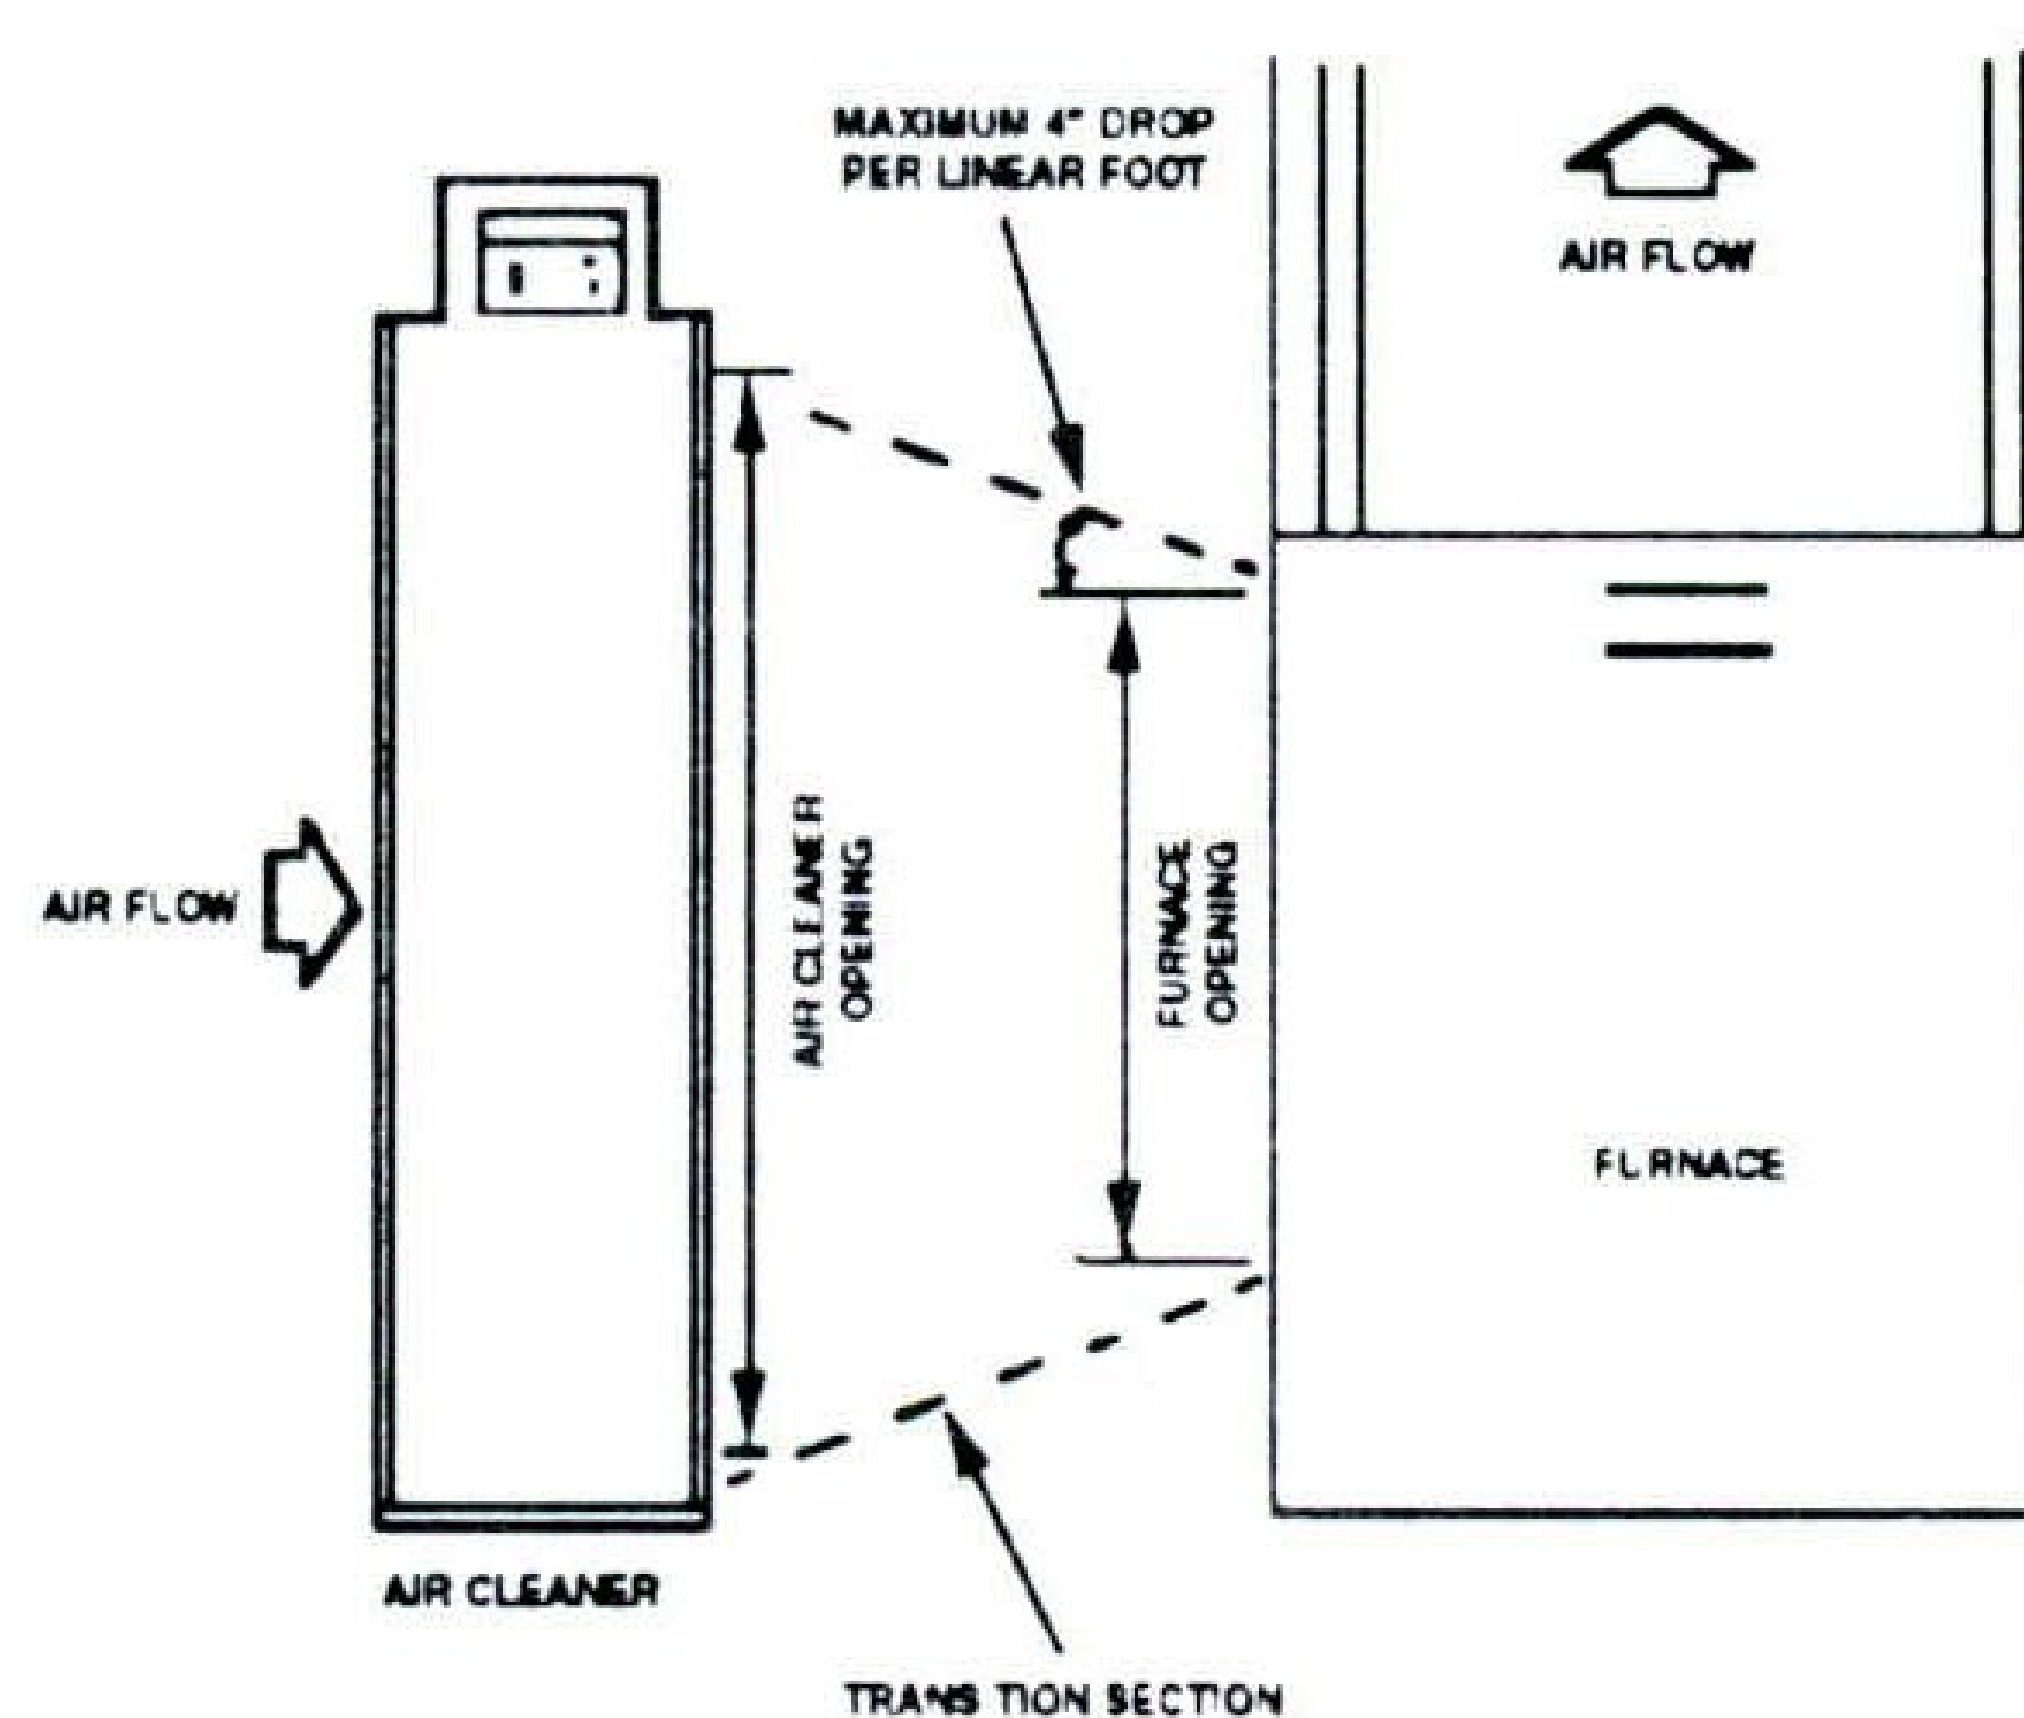
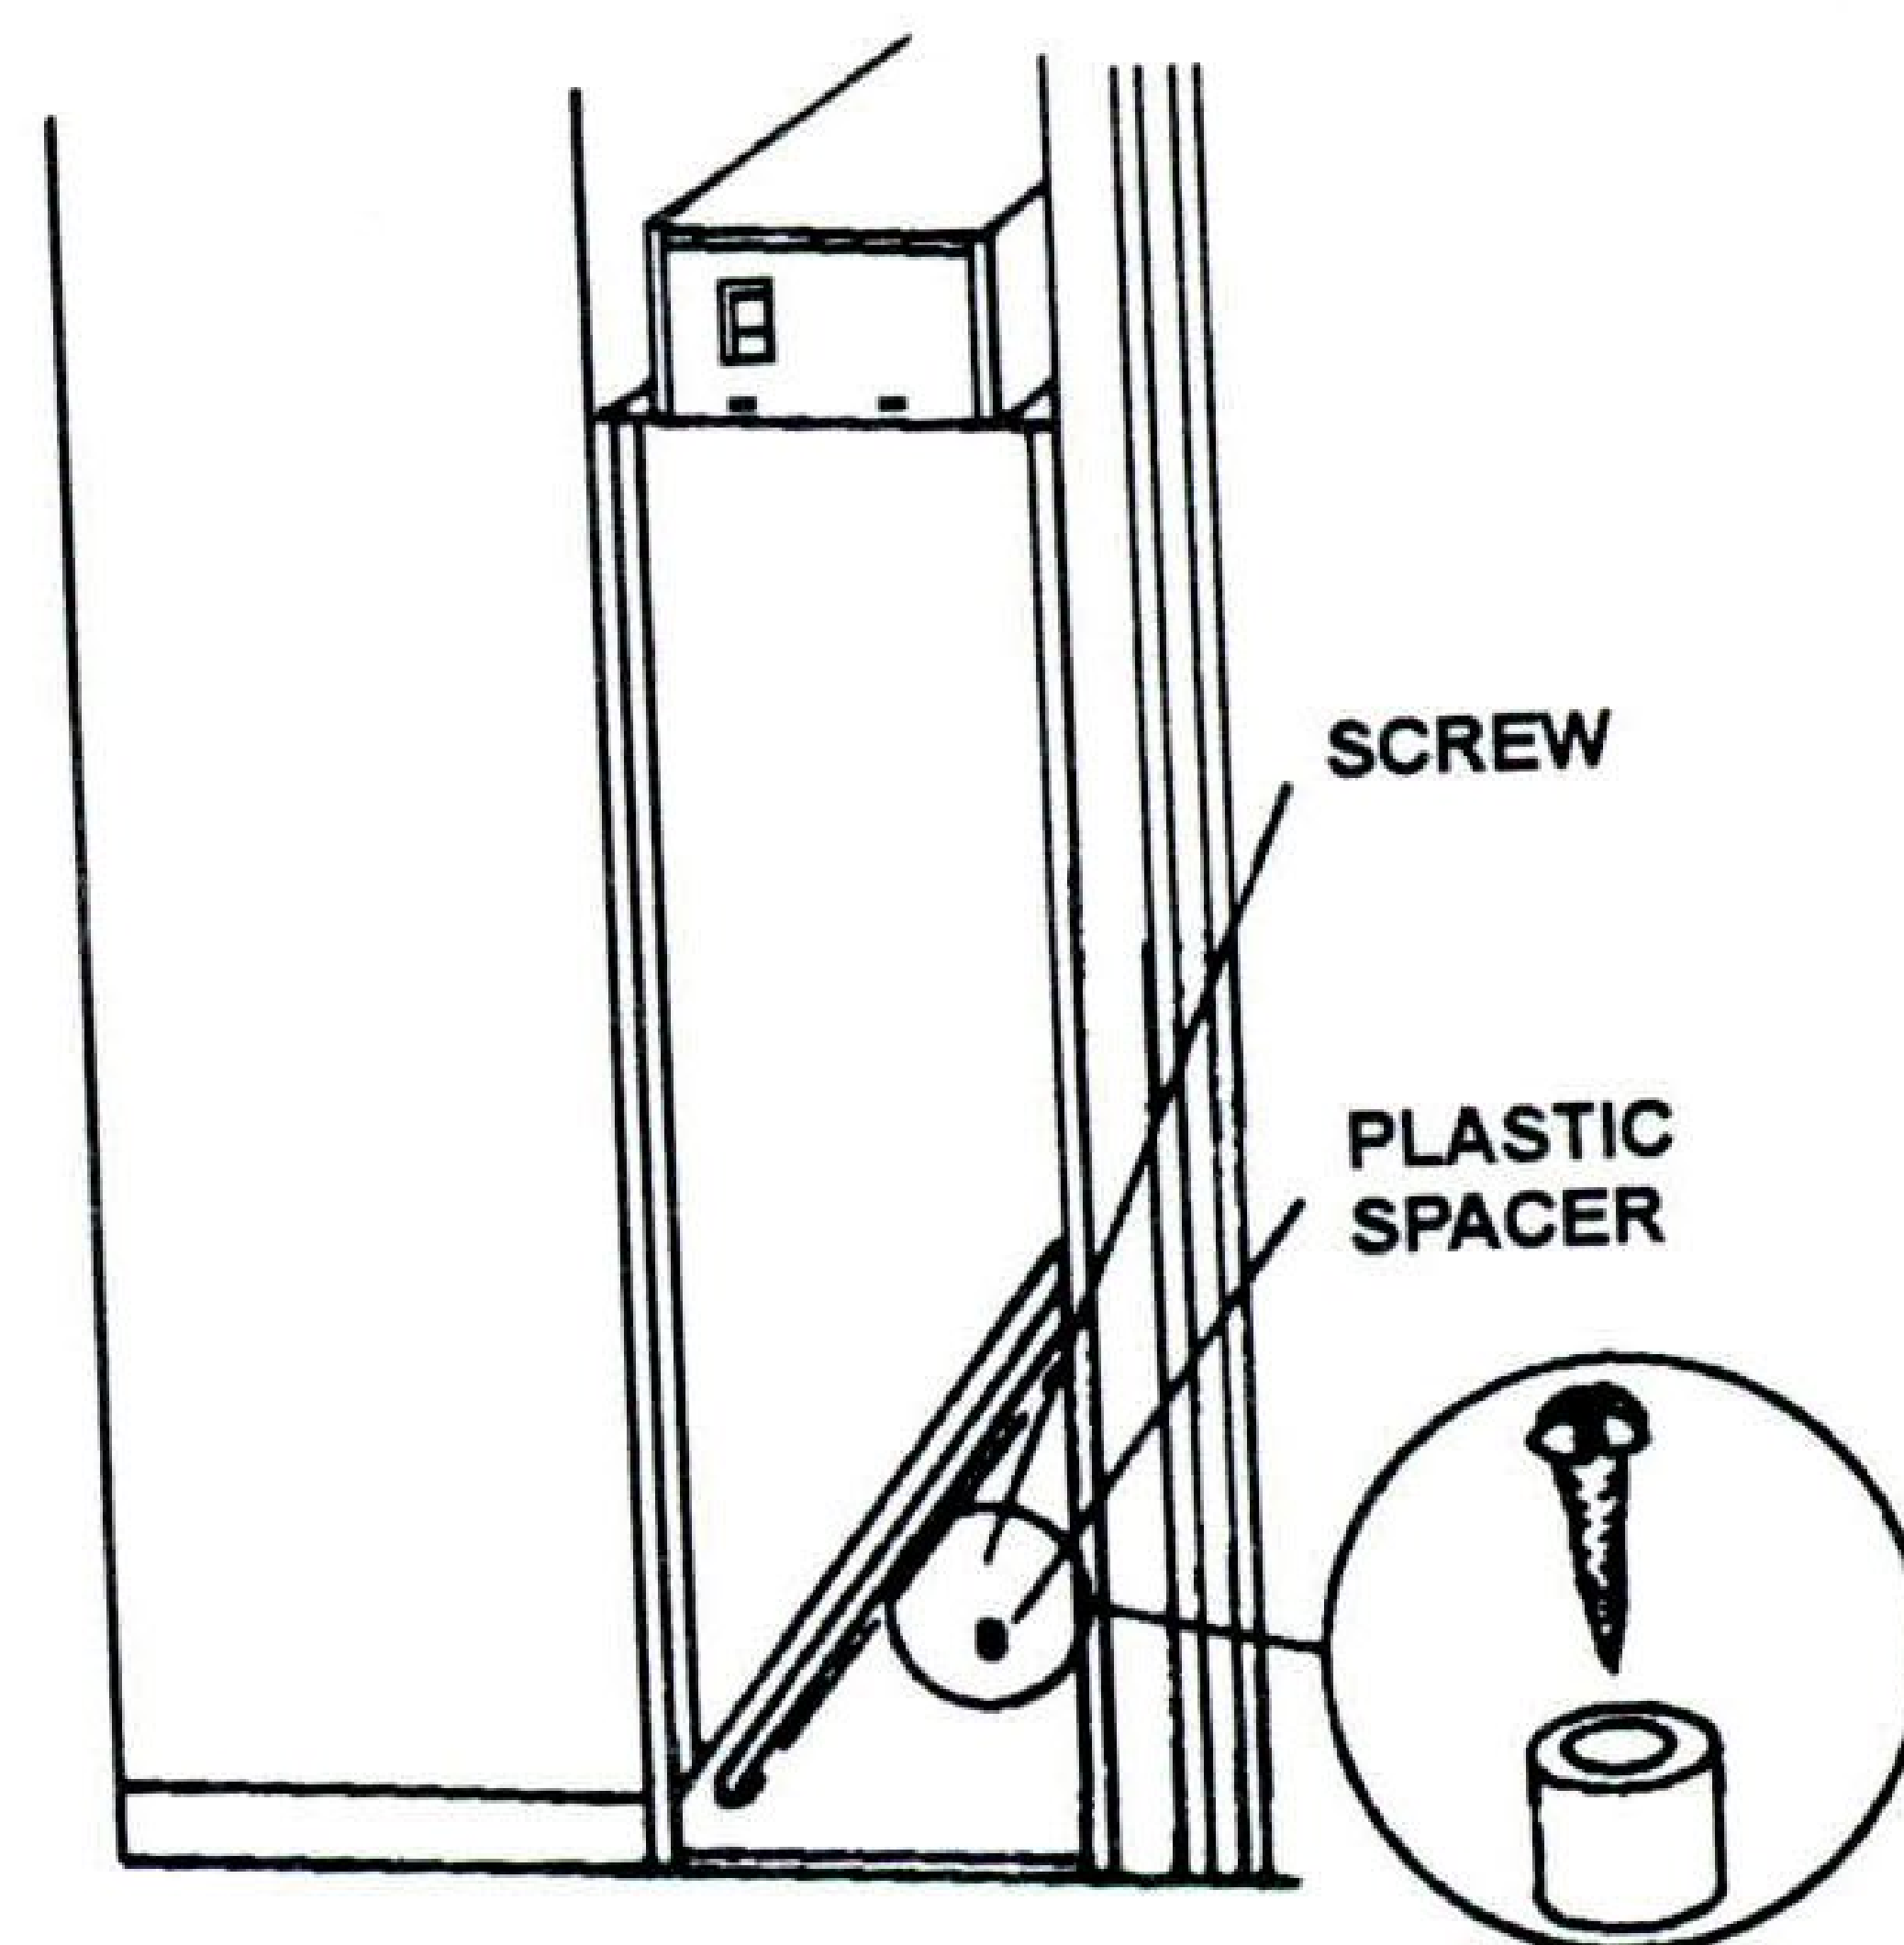

Figure 4
Figure 6
If the air duct does not fit the air cleaner cabinet opening, gradual transitions are recommended to reduce air turbulence through the air cleaner and maximize efficiency. Not more than 20° (about 4" per running foot) of expansion should be used on each side of the transition fitting (Figure 4).
1. Remove the prefilter(s) and cells from the cabinet. A plastic positioning spacer is located inside the bottom of the cabinet. This spacer is secured to the cabinet using a #6-32 round head Phillips drive thread cutting screw to allow installation of the cells in the proper position with respect to air flow (Figure 6).
7. Locate the cabinet in the cold air return duct so that all of the return air flows through the unit (Figure 6). If the furnace and air cleaner openings are different, use a transition (Figure 4).